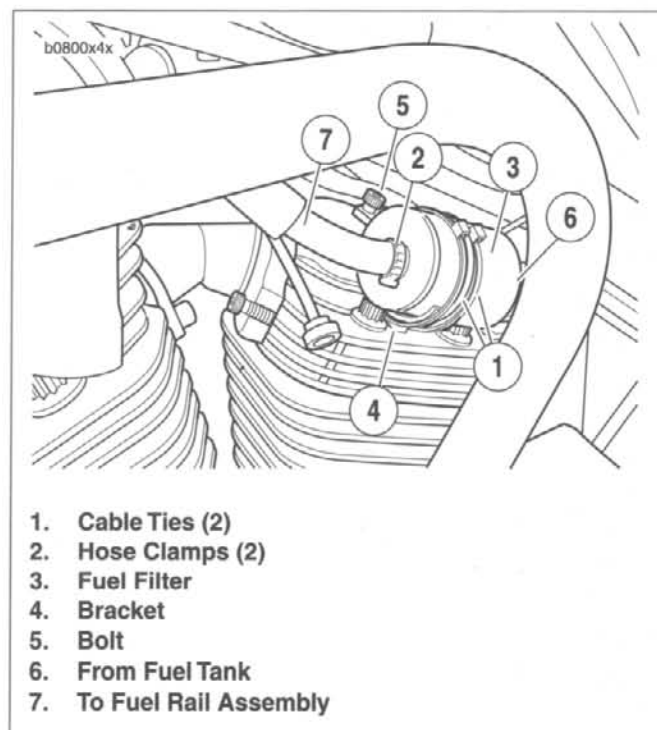

Figure 4-94. Inline Fuel Filter (2000 Models)
2. **2000 Models Only:** See Figure 4-94. Cut two cable ties that secure fuel filter to bracket.